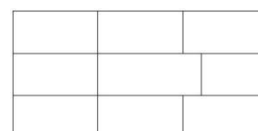

Fig 24
4. Enter to finish the command (Fig24).